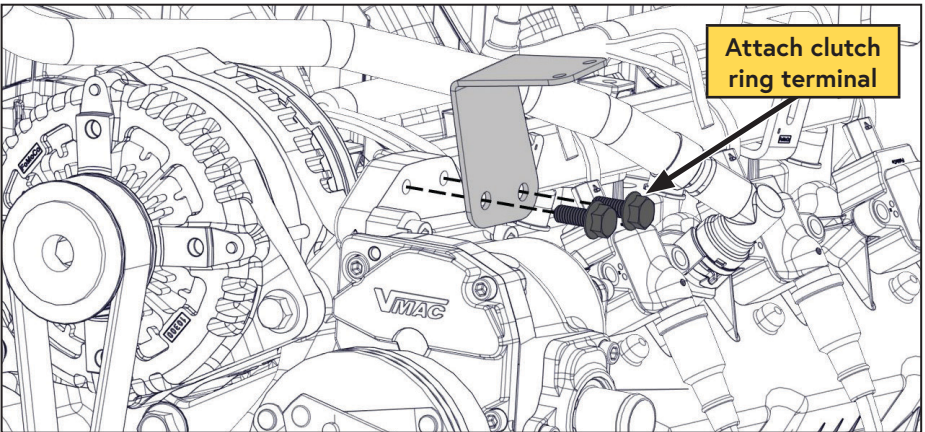

Figure 12 — Install air filter bracket
- Slide the ring terminal from the clutch ground wire onto one of the supplied fasteners and install the air filter bracket onto the compressor bracket (Figure 12).